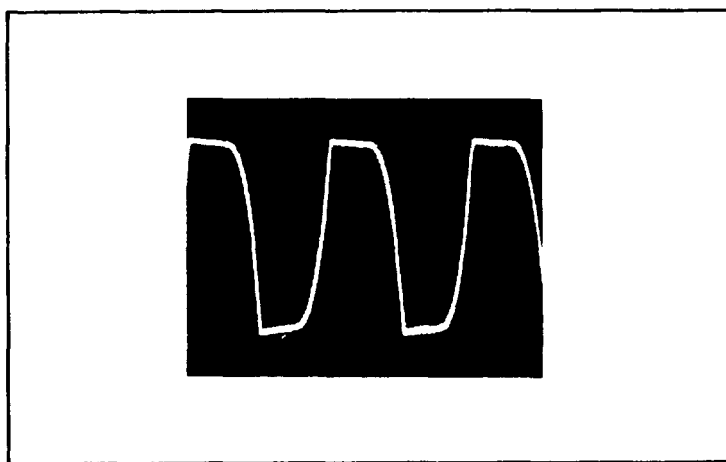

Figure 5-11. Search Waveform
4. Attach oscilloscope probe to feedthrough capacitor C8 (see Figure 8-8) and set oscilloscope VOLTS/DIV to 0.2 and TIME/DIV to 5 msec. Search waveform should be as shown in Figure 5-11 with amplitude from 8.5 to 11.5 V pp.